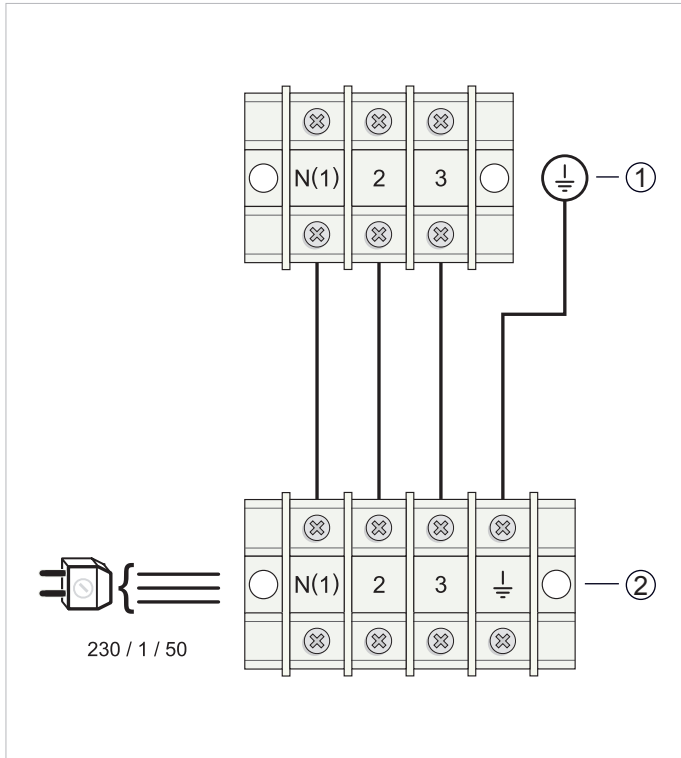

Fig. 11.4 Electrical layout for outdoor and indoor connection SDH 18-025 NW and SDH 18-035 NW.
- Pass the electrical cable from the rear of the indoor unit through the specific hole in the front. Connect the cables in the indoor unit terminal space according to the corresponding connection layout. (Figure 11.4 and 11.5).